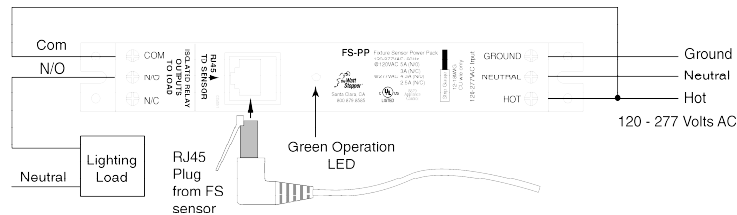

Fig 2: FS-PP direct wiring to lighting load
1. Install the FS-PP as directed in the installation instructions provided with the power pack. Review Figures 2, 3, and 11 to determine appropriate load wiring to the FS-PP and Occupancy Mode Switch setting for the FS-505.